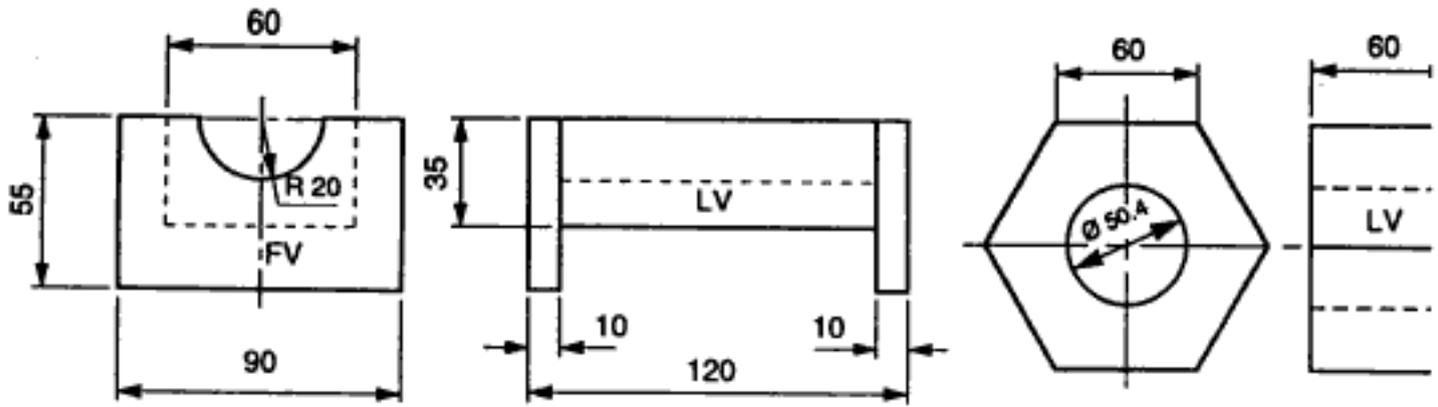

Fig 6.22
- 3 The front views and left views are shown in fig 6.22. They are drawn in first-angle orthographic projection. Do not copy the views given. Just draw the isometric drawing. Do not insert dimensions. Scale 1:1.